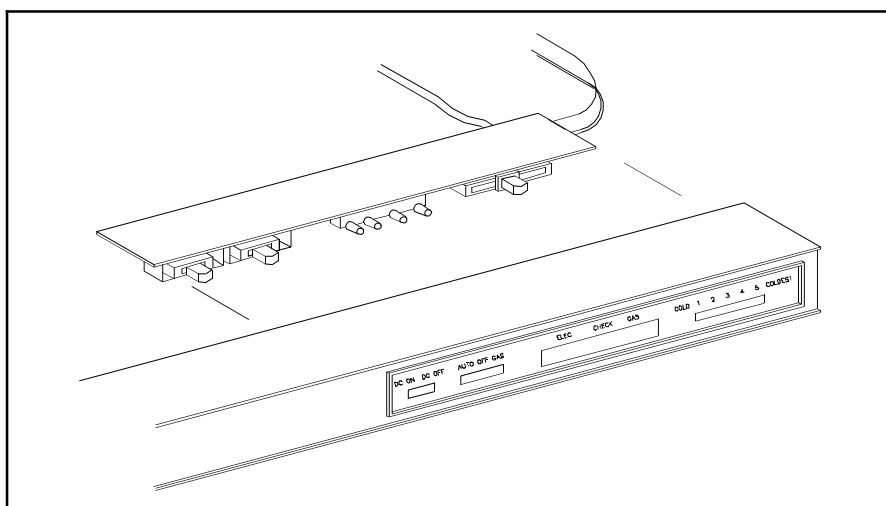

Figure 11.40 Eyebrow Board Removal
13. Remove the Eyebrow board from the Eyebrow assembly as shown in Figure 11.40. Do not disconnect the cable or thermistor from the Eyebrow board.